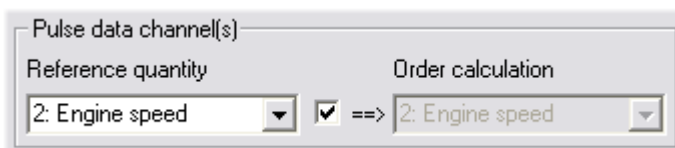

Figure 4: Calculation and display versus engine RPM
For converting a digital pulse channel, the Statistics Pool of ArtemiS provides the “Add Speed Channels” item. To save the sound file with the additional channel, a File Export item must be inserted into the Destination Pool. With the function “Feed: Time signals -> Source Pool”, see figure 4), which can be activated in the Properties dialog of the File Export item, the exported time domain signal with the additional analog channel is directly inserted back into the Source Pool.
4. Open the context menu by right-clicking on the upper left field of the table (see figure 4). In this menu, select "New digital channel".